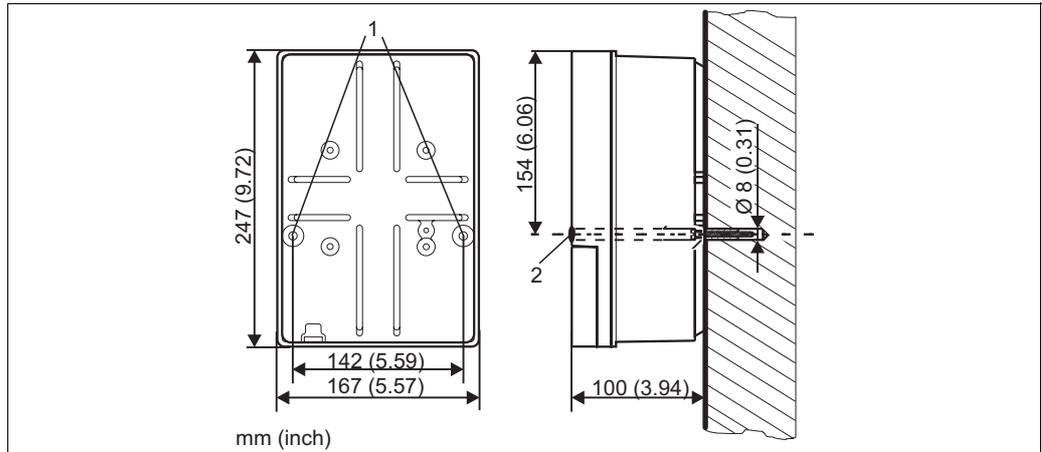

Fig. 10: Dimensions for wall mounting, securing screw: Ø 6 mm (0.24"), wall plug: Ø 8 mm (0.31")
1. Bore the holes as per Fig. 10.
2. Push the two securing screws from the front through the securing bores (item 1).
4. Cover the bores with the plastic caps (item 2).